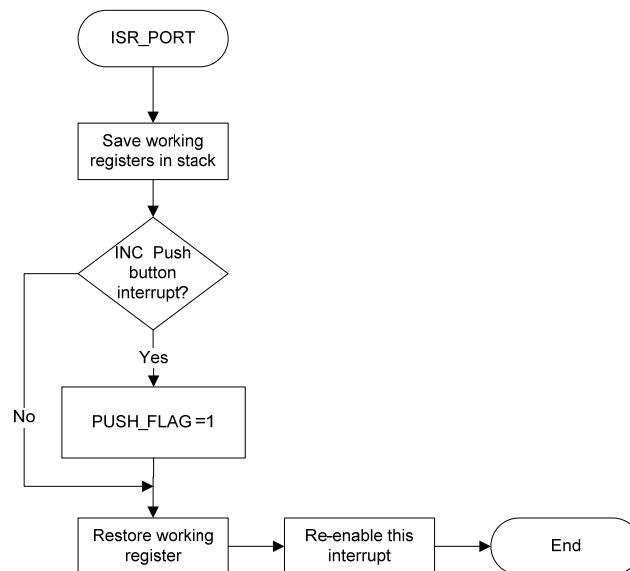

Figure 4: Software debouncing ISR flowchart.
2. Modify the code of the ISR in *Part I* for setting a flag when an interrupt is generated. Follow the flow chart in Figure 4 as a guide.